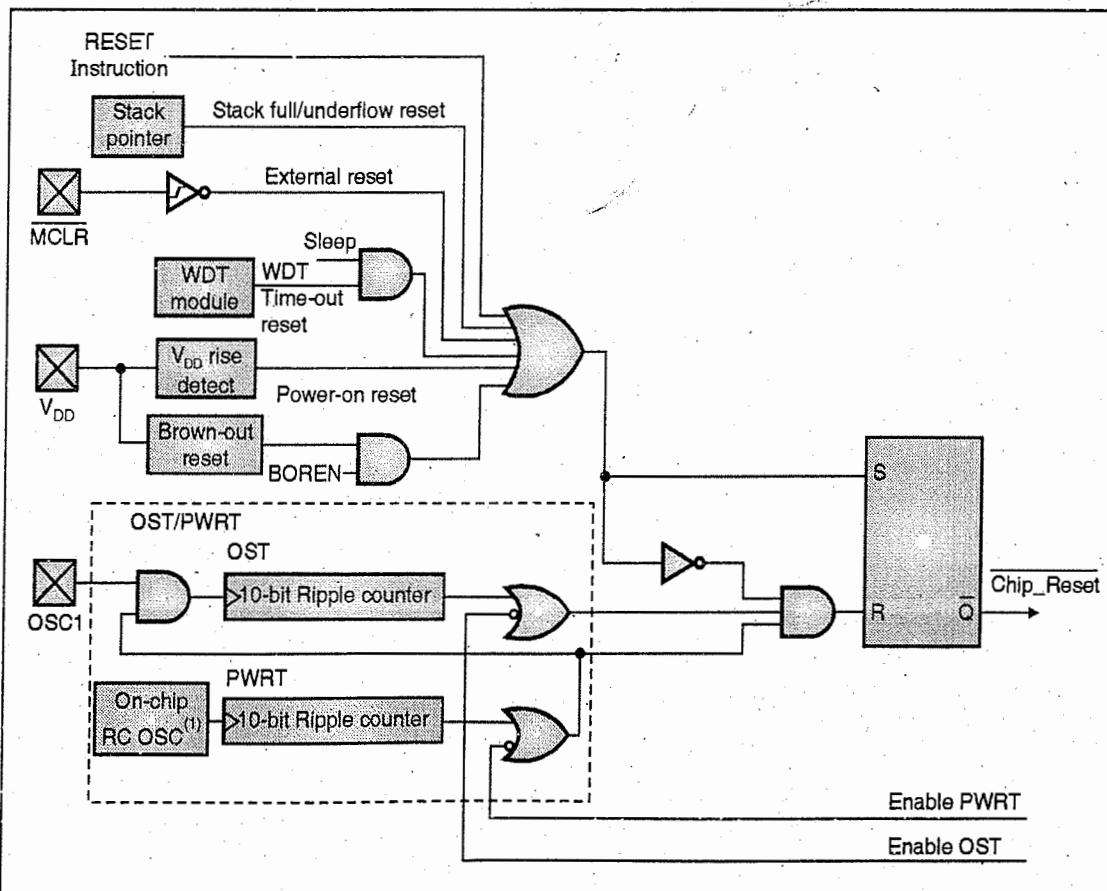

Fig. 4.15.1 : Reset Circuit
- Fig. 4.15.1 shows the PIC18 microcontroller Reset circuit. The MCLR signal is the manual reset signal that when activated resets the PIC18 microcontroller.